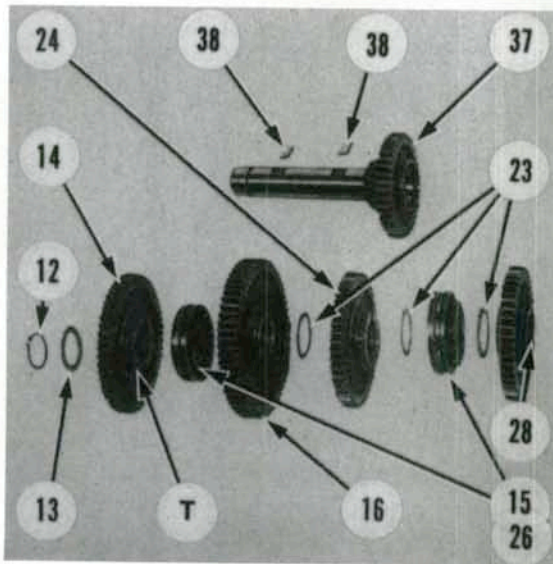

Fig. 214—Exploded view of main countershaft and components.
Prior to reassembling transmission, temporarily assemble gears, thrust spacers, sliding shift connectors and couplings in proper assembly order on the transmission countershaft, then install front thrust washer and snap ring; refer to Fig. 214 for assembly guide. Check clearance between front thrust washer (13) and snap ring (12) with a feeler gage. If clearance is not within specified limits of 0.0073-0.0193 inch
Install high-low shift shaft and arm and secure with the clamp bolt. Position the three gear shift forks in transmission case. Install the countershaft from rear of transmission case while assembling gears, thrust washers and shift connectors and couplings (Fig. 214) on the shaft as shaft is moved forward.
**NOTE:** Be certain that timing marks on shift couplings and connectors (15 and 26—Fig. 214) are aligned and that chamfered end of connector bores face rearward.